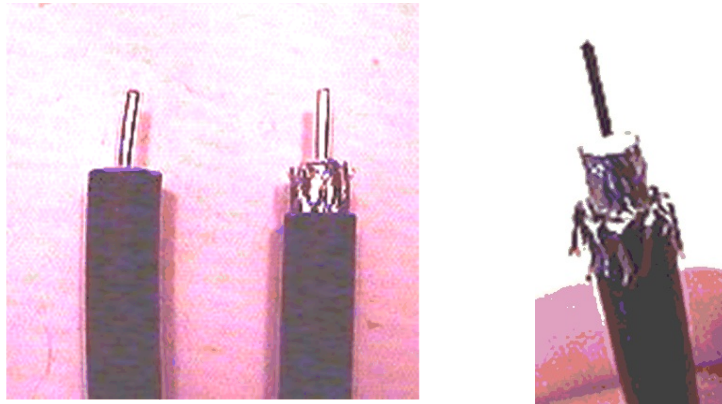

Figure C-3. Folding the Braid
- Fold the braid back over the jacket and trim the braid to the length as defined under Length C in Table C-1 on page 34 and shown in Figure C-3.